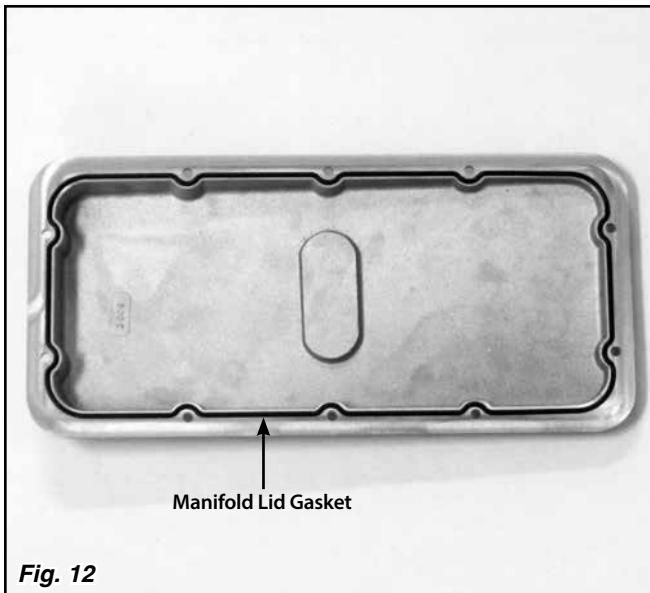
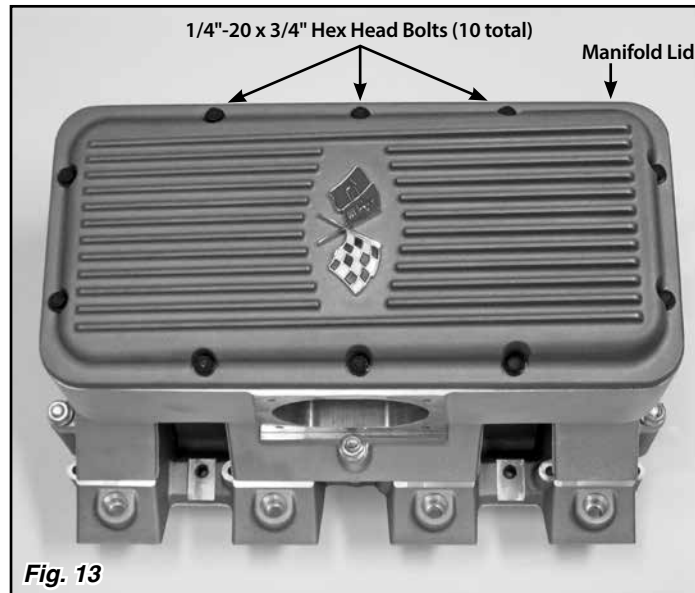

Fig. 12
Fig. 13
Step 10: Install the manifold lid gasket into the groove in the underside of the manifold lid. **Fig. 12** Place the manifold lid into position on top of the upper manifold. Apply thread sealant to each of the ten 1/4"-20 x 3/4" hex head bolts, and thread them in finger tight. Then, starting with the two center bolt holes, tighten the bolts using a crisscross pattern in two steps, 7 lb.-ft. for the first step and 12-15 lb.-ft. for the second step. **Fig. 13**